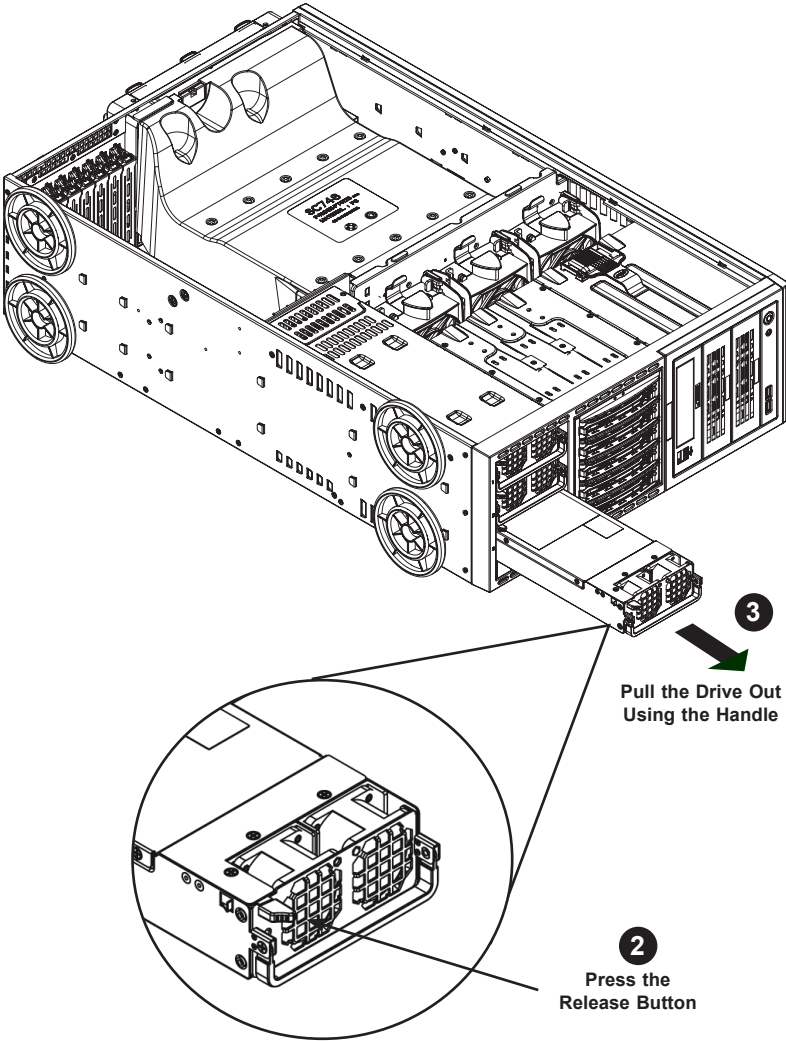

Figure 5-21. Removing a Power Supply
2. On the front of the chassis, push the release button on the power supply module. (Figure 5-21)